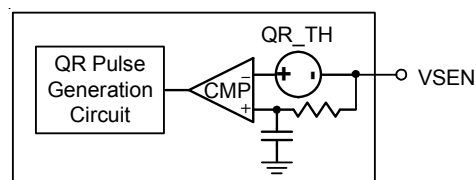

Figure 12. VDD Controller: Quick Response Triggering Circuit
When the transient load step-up becomes quite large, it is difficult for loop response to meet the energy transfer. Hence, the output voltage generate undershoot to fail specification. The RT3662AC has Quick Response (QR) mechanism which is able to improve this issue. It adopts a nonlinear control mechanism which can disable interleaving function and simultaneously turn on all UGATE one pulse at instantaneous step-up transient load to restrain the output voltage drooping. The output voltage signal behavior needs to be detected so that QR mechanism can be triggered. Refer to Figure 12, the output voltage signal is via a remote sense line to connect at the VSEN pin. The QR threshold can be set by SET1 pin setting for VDD controller refers to Table 3.
Then solving the switching condition $V_{COMP2} = V_{CS}$ in Figure 12 yields the desired error amplifier gain as